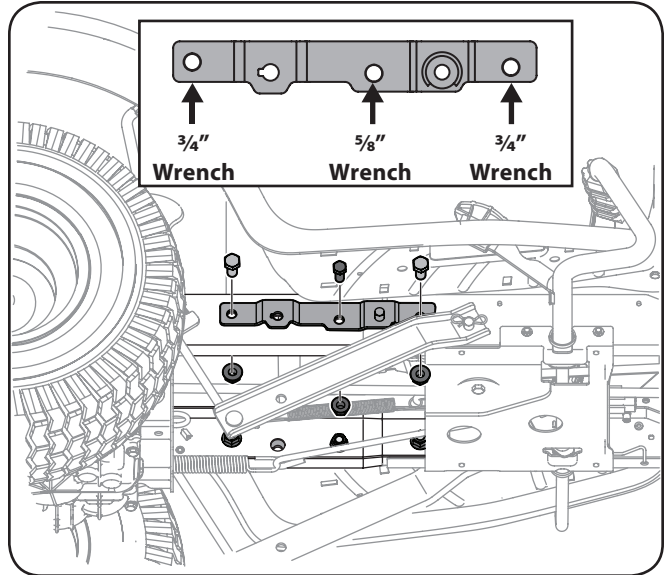

Figure 3-2
- Secure the right carriage support bracket marked with an "R" to the outside of the tractor's frame with three hex screws and flange lock nuts as shown in Figure 3-2.